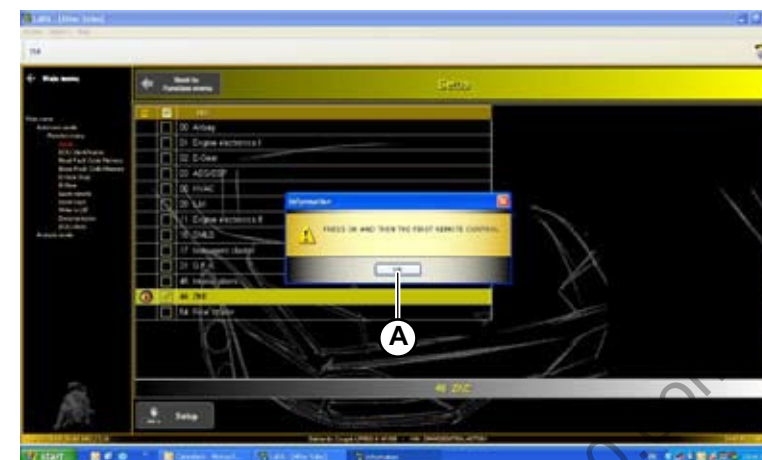

Fig.83
- Press **“OK”** to start (A-Fig.83).